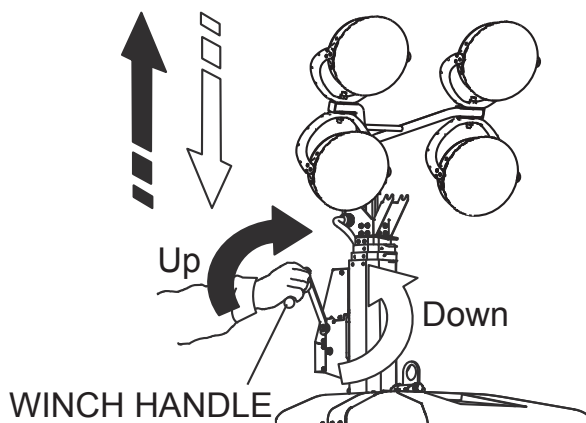

Figure 14. Extending the Mast
2. Turn the mast winch clockwise to raise the mast and observe that the mast begins to extend upwards (Figure 14).